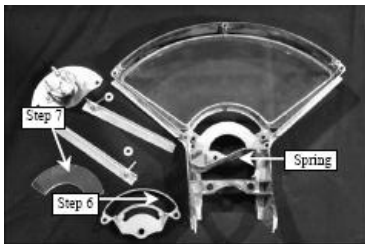

Figure 5
Step 6: For automatic transmissions, remove gear selector bracket (2 screws) and disengage spring. (Figure 5)
Step 7: Remove gear selector glass. (Figure 5)